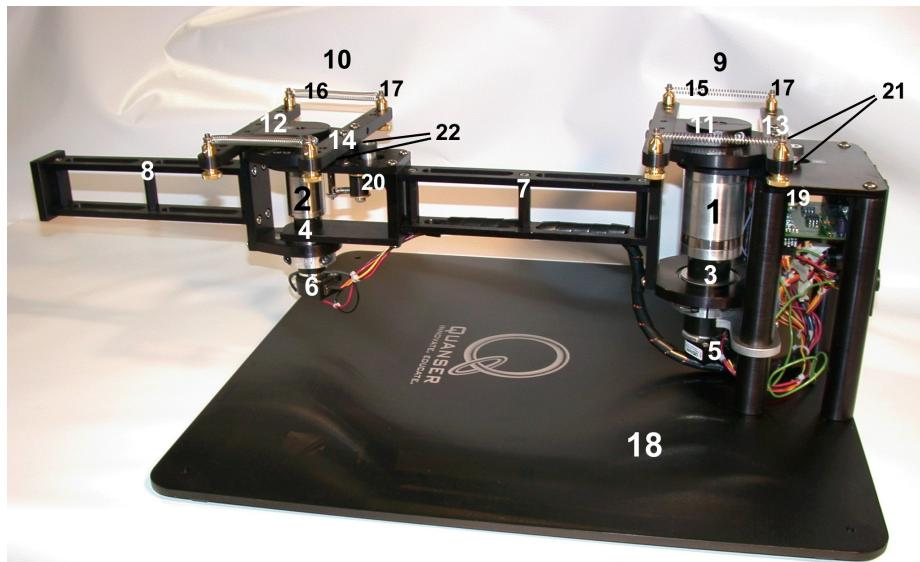

Figure 2 2-DOF Serial Flexible Joint Robot
Table 1 provides a list of all the principal elements composing the 2DSFJ plant. Every element is located and identified, through a unique identification (ID) number, as represented in Figure 2.